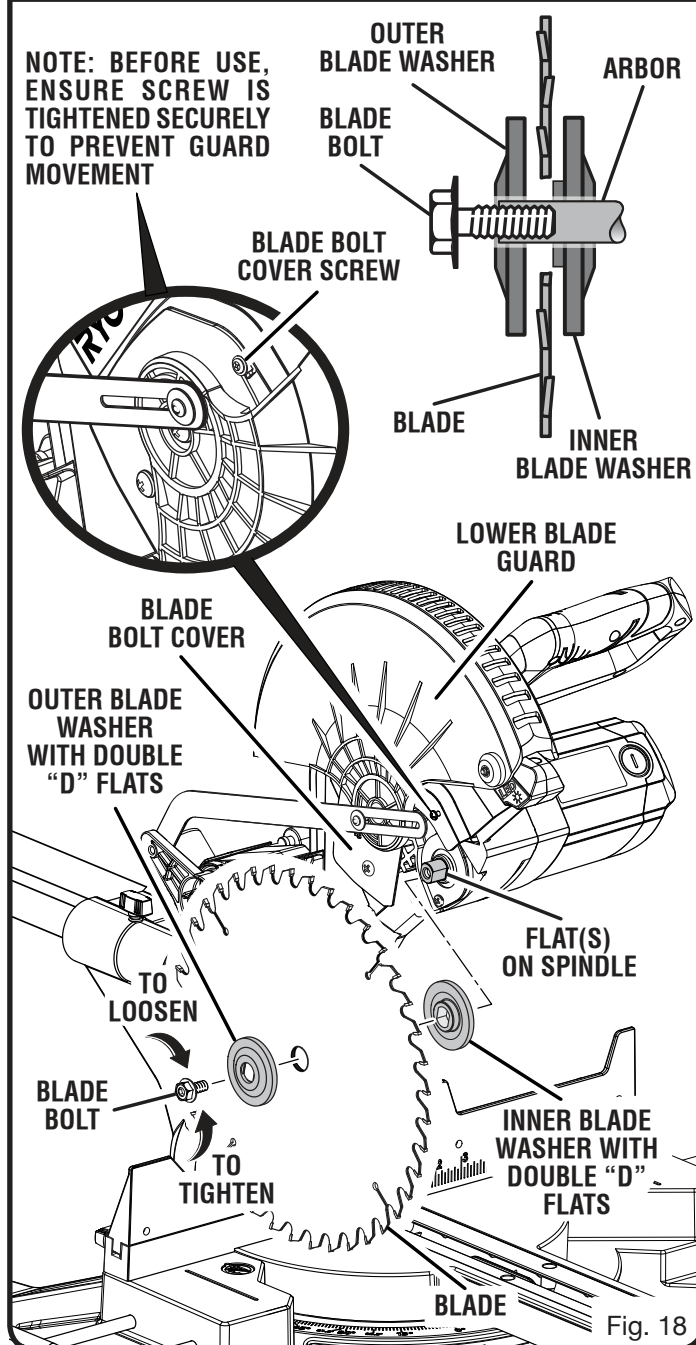

Fig. 18
- Fit saw blade inside lower blade guard and onto shoulder of inner washer. The blade teeth point downward at the front of saw as shown in figure 18.